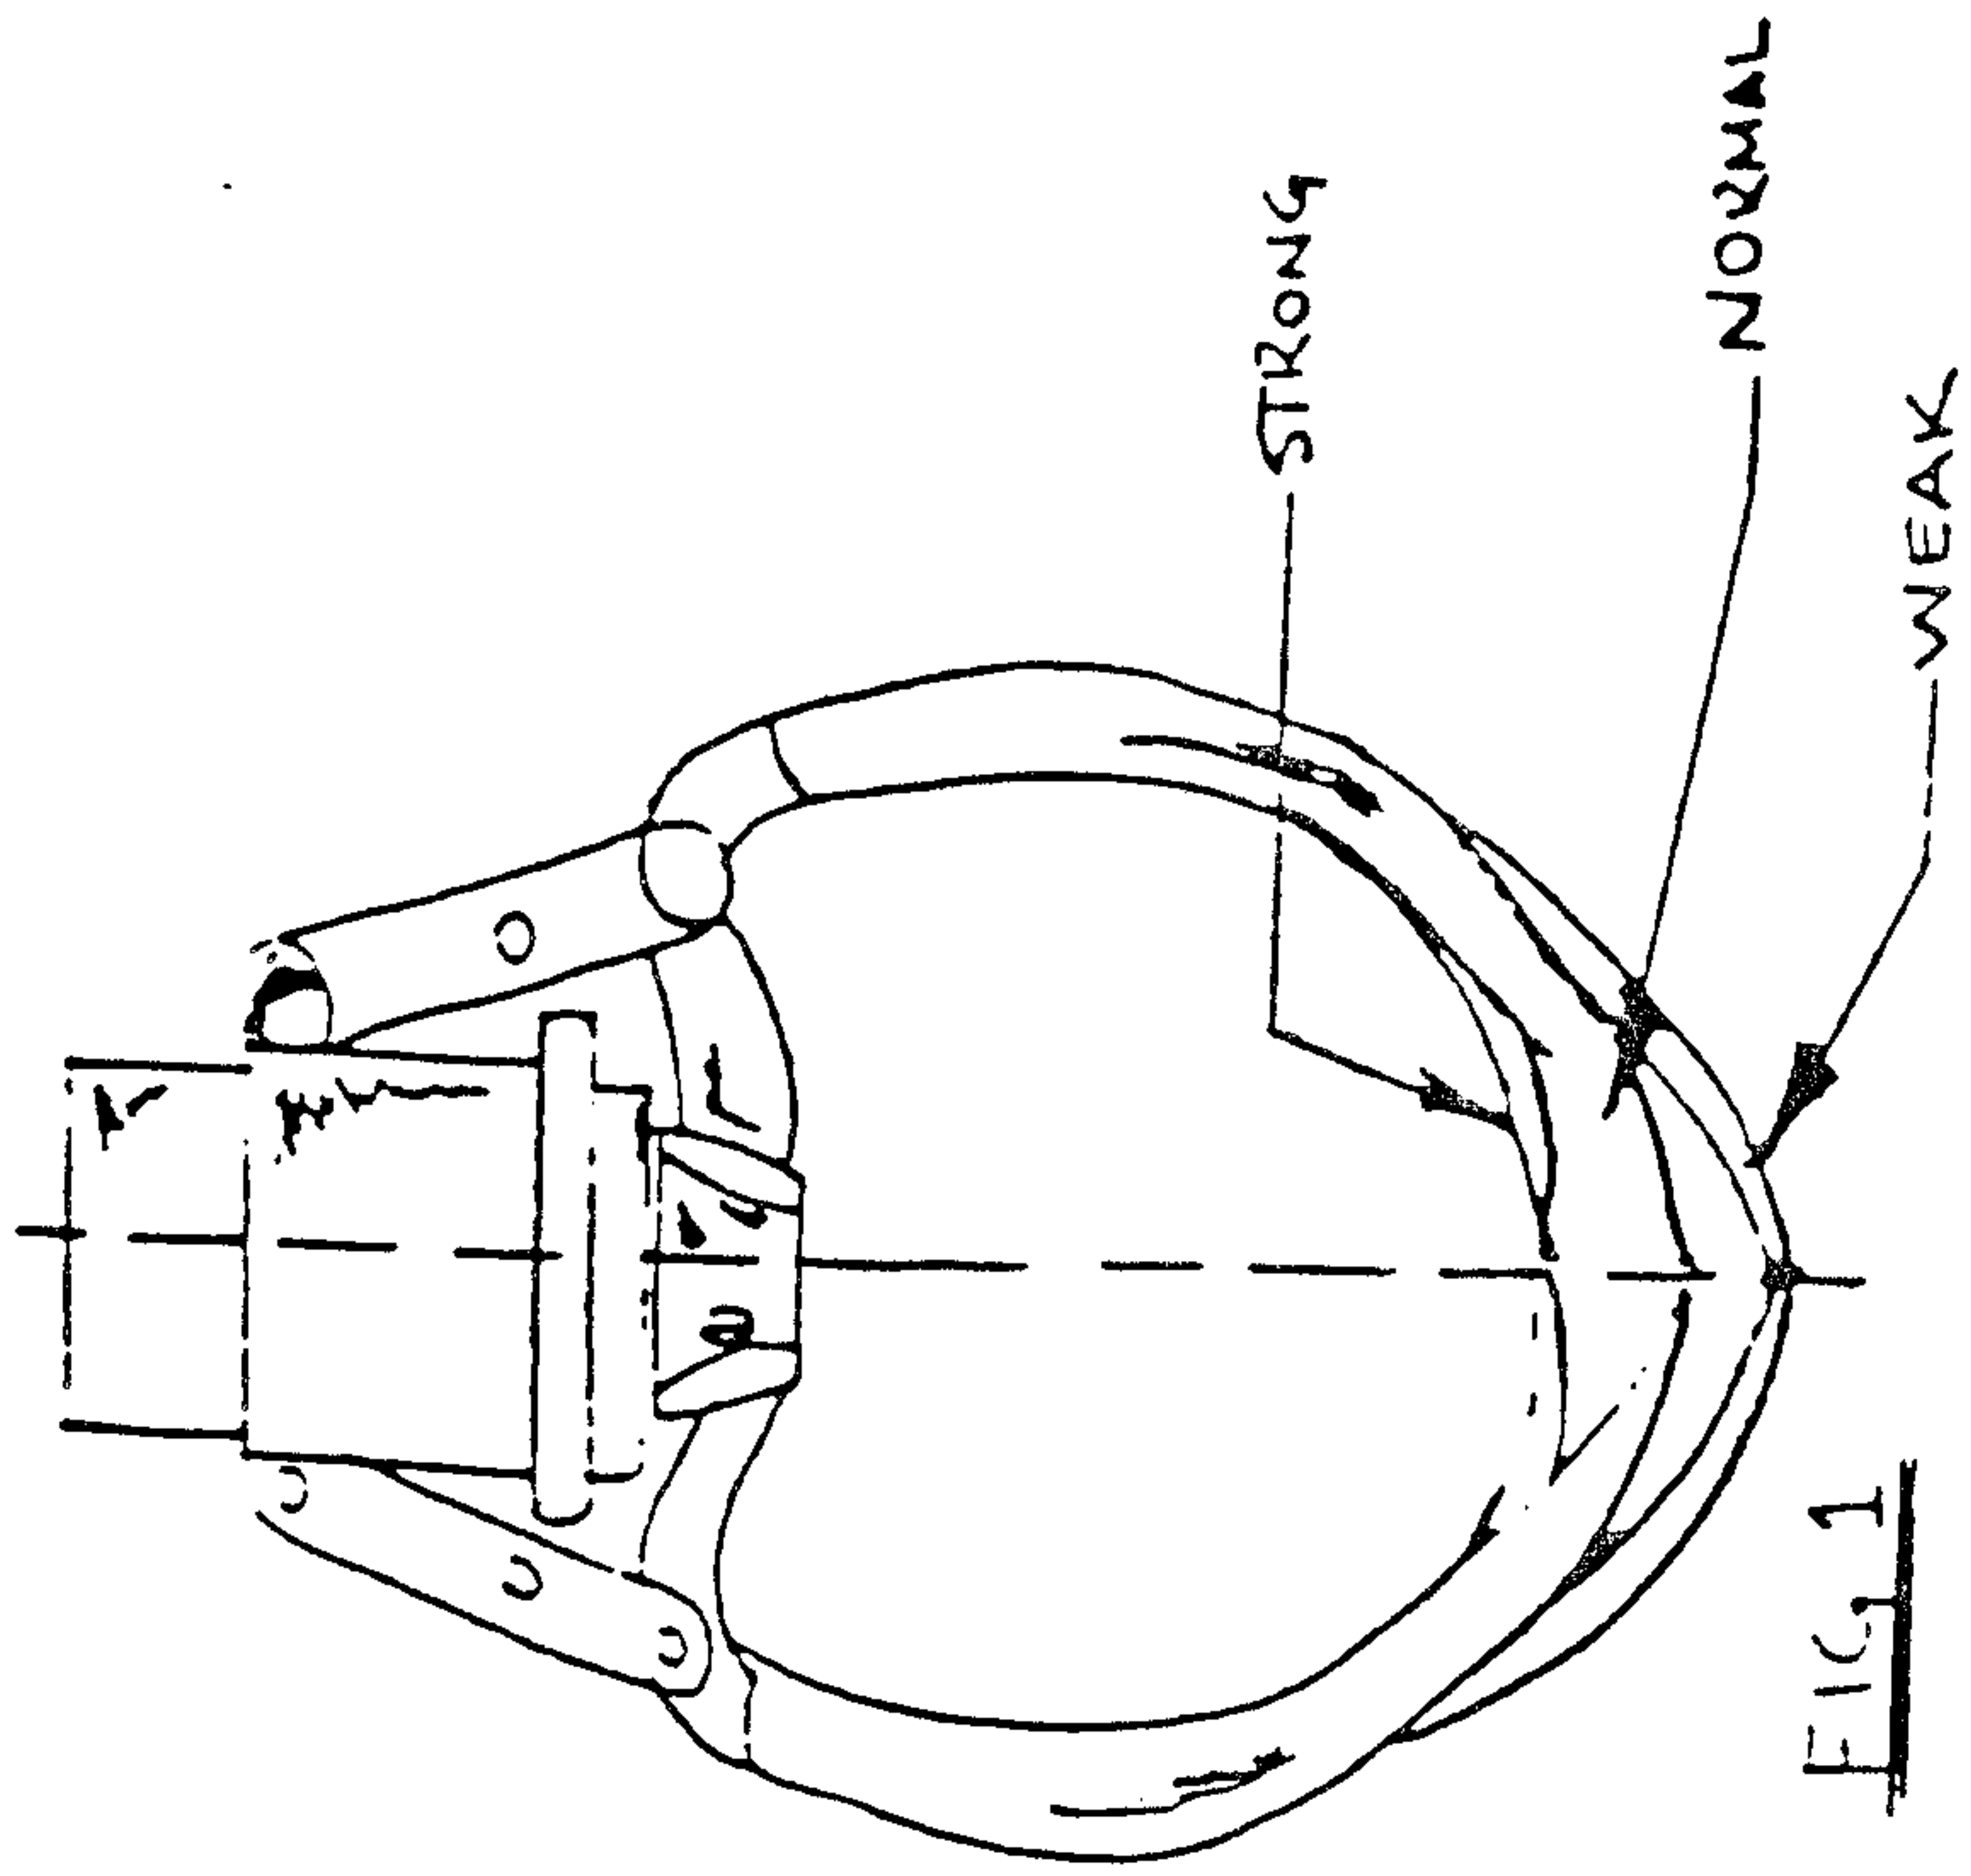

FIG 1
4. A final adjustment is also available. The claws can be physically bent as shown in Figure 1 to add to the versatility of your KRAMER KRANE.